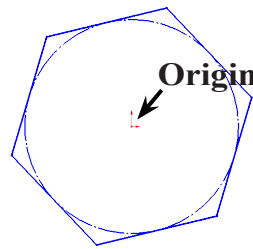

Fig. 2
Step 4. Confirm **6 sides**  and sketch **polygon** starting at the Origin , **Fig. 2**.